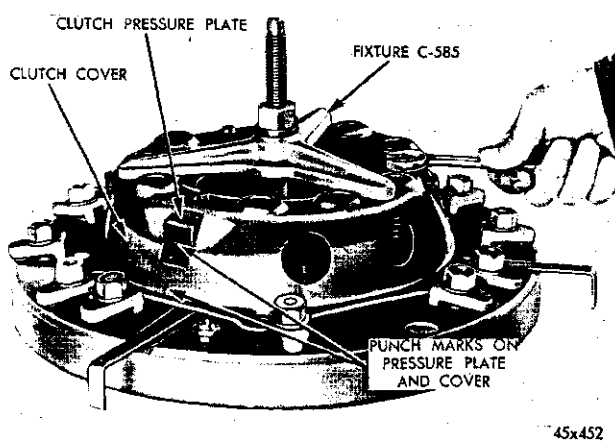
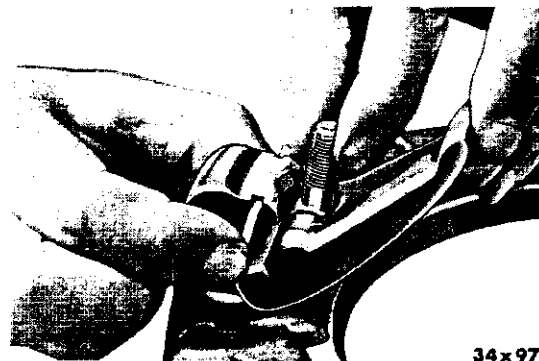

Fig. 3—Clutch Cover and Pressure Plate Assy. in Fixture
Fig. 4—Removing Release Lever
(1) Place the cover assembly on the adjusting fixture, Tool C-585A.
(2) Place the three-legged spider over the center screw, so that the legs are located midway between the staked nuts. Install the thrust washer and compression nut. Tighten the nut until the cover contacts the base of the fixture. (Fig. 3).
(3) Remove the three eye-bolt nuts, then remove the compression nut, washer and spider.
(4) Remove the clutch cover, the springs and the rollers.
(5) To remove the levers (Fig. 4), grasp the eye-bolt between the thumb and index finger to hold it up against the lever while the other fingers raise the lever up. With the other hand, lift the strut over the ridge on the end of lever. Lift the lever and eye bolt off the pressure plate and remove the strut.
(1) Assemble the eye bolt, cross pin and release lever. Hold the threaded end of the eye bolt between the thumb and index finger.
(2) With the other hand, hold the strut in the slot in the pressure plate lug (Fig. 4).
(3) Insert the eye bolt in the hole in the pressure plate and position the release lever under the strut so that the strut can be positioned in the groove in the lever.
(4) Install the other levers in the same manner.
(5) Place the pressure plate on the clutch fixture Tool C-585A with the levers over the fixture feeler blades.
(6) Place the pressure springs on the pressure plate in the following order: Painted (white) next to release spring levers followed by two unpainted springs. There is no spring in the fourth cavity.
(7) Place the rollers in position on the pressure plate.
(8) Place the cover over the rollers and springs, with the aligning mark on the cover over the marked lug of the pressure plate.
(9) Install the three-legged spider over the center screw with the legs contacting the cover midway between the eye bolt holes.
(10) Install the thrust washer and compression nut. While tightening the nut, guide the eye bolts through the cover and guide the cover over the pressure plate lugs. Also make certain that the rollers are free to move in their slots. Tighten the compression nut until the cover contacts the base of the fixture.
(11) Apply fixture clamps at each cover retainer bolt hole to hold the assembly to the fixture.